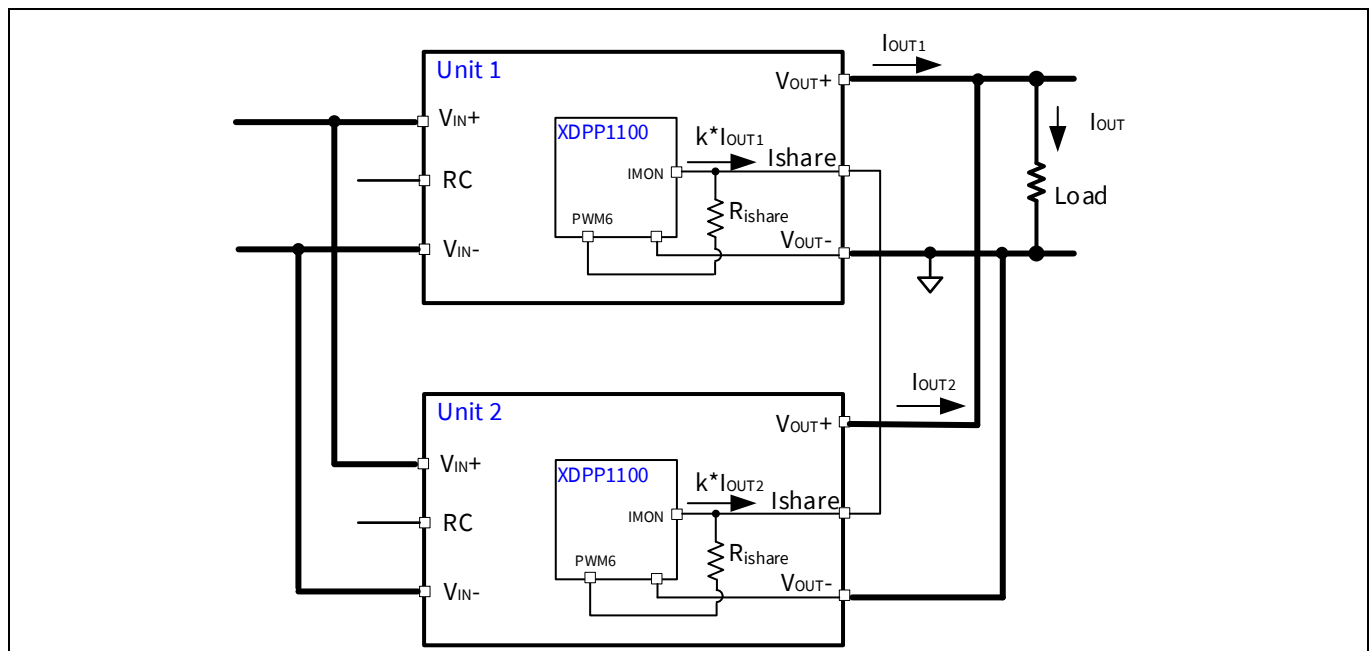

Figure 88 Active current sharing example with two units in parallel while start-up sequencing is applied
- IMON pin and PWM6 for XDPP1100-Q024 (Figure 88)
- IMON pin and PWM6 or PWM11 for XDPP1100-Q040 (Figure 88)